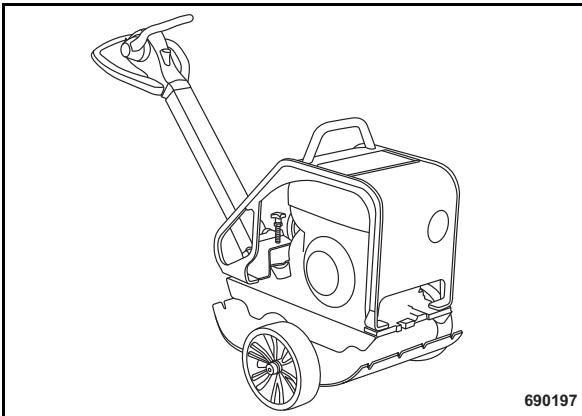

Fig. 36
- Unlock the steering rod and fold it down (Fig. 36).